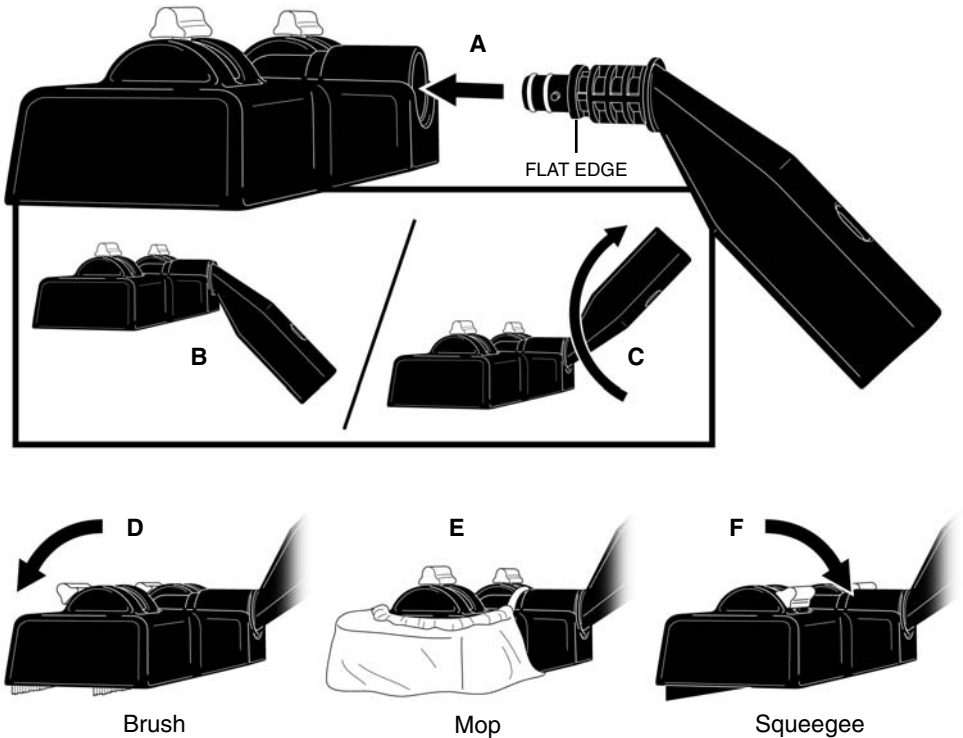

FIGURE 3
1. Align Steam Jet Nozzle and Utility Head as shown (FIGURE 3-A). Flat edge of Nozzle will align with peg inside of Head connection.
2. Slide Steam Jet Nozzle into Utility Head, pushing Nozzle in as far as it will go to make sure it is in proper position (FIGURE 3-B).
3. Rotate Steam Jet Nozzle one half turn (180°) to secure it to Utility Head (FIGURE 3-C).
- Forward Position (FIGURE 3-D) - lowers brush bristles for use on carpeting or upholstery.
- Neutral (Middle) Position (FIGURE 3-E) - for use on hardwood, linoleum or tile surfaces. **Make sure to attach Cloth Cover when mopping floors.**
- Back Position (FIGURE 3-F) - lowers squeegee for use on smooth surfaces such as windows or mirrors.